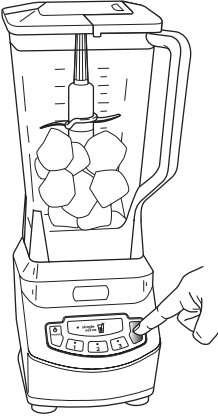

Fig. 6
- 11 Select the speed that best suits your needs. **(Fig. 6)**
- 8 Turn the cup upright and remove the Nutri Ninja Blade Assembly by twisting the blade assembly to the left. **(Fig. 6)**